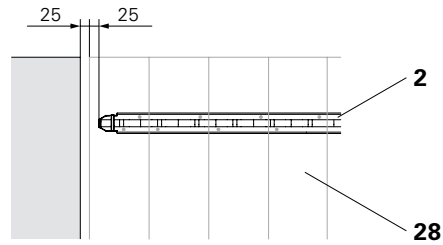

Fig. B1.02
The planking (28) protrudes max. 25 mm over the girder (2). (Fig. B1.02)